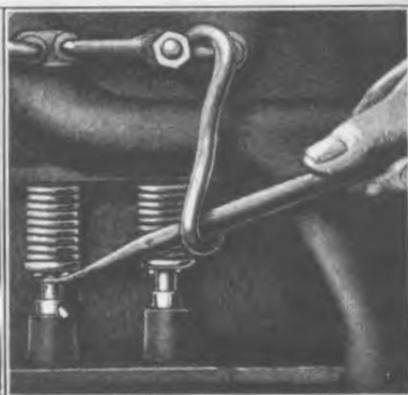
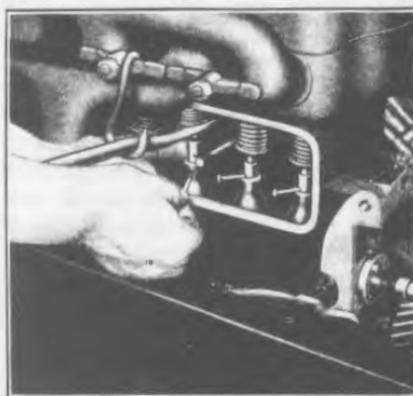

Fig. 281
Fig. 282
- 475 Lift up push rods by inserting a valve lifter under valve seat pins (See Fig. 281). While valve is held up push rod can be raised with fingers until hole in rod is exposed. A pin is then inserted into the hole in each push rod (8d nails with the points filed off can be used for this purpose) and valve stems are allowed to rest on push rods as shown in Fig. 282.